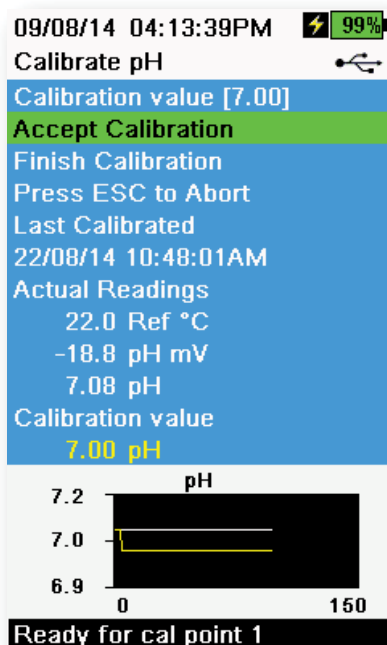

Figure 50 Calibrate pH 1-point
7. Observe the actual measurement readings for stability (white line on graph shows no significant change for 40 seconds), then select **Accept Calibration** (Figure 50). "Ready for cal point 2" will be displayed in the message area.